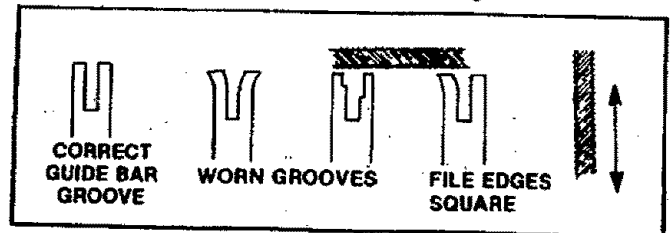

Figure 38
- d. Remove burrs by filing the side edges of the guide bar grooves square with a flat file. Figure 38.
- e. Restore square edges to an uneven rail top by filing with a flat file. Figure 38.